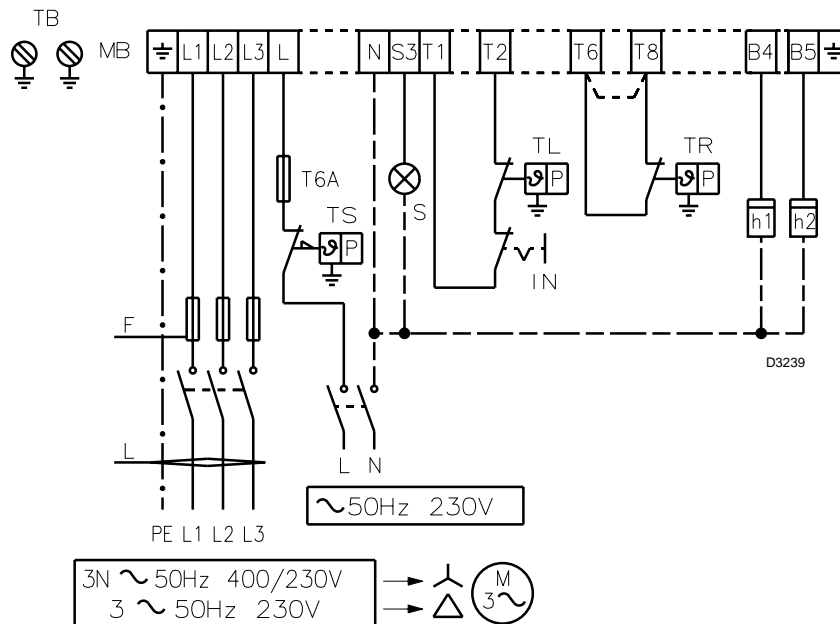

Fig. 17
Fuses and cables section layout, see table (Fig. 17).
**Key to wiring diagram (Fig. 17)**